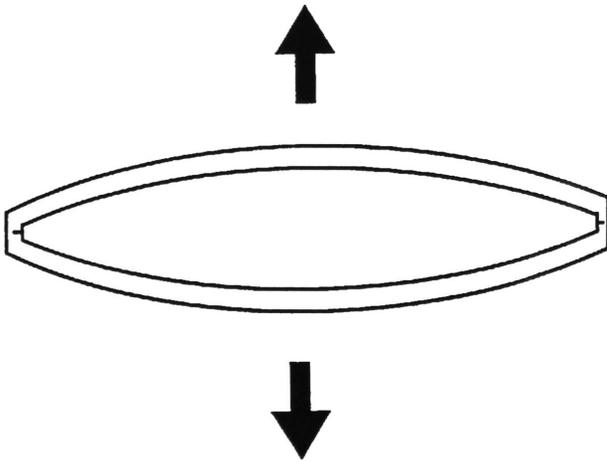
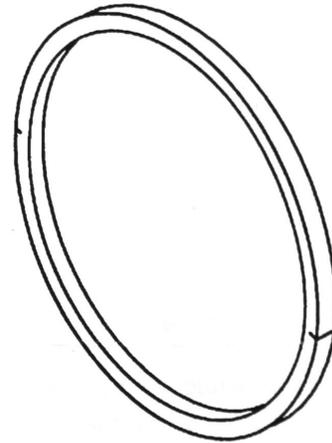

Figure 1
Figure 2
2. Once old seal is removed, pull supplied seal in direction as shown in Figure 1 to form circle as shown in Figure 2.
3. After gasket is formed into a circle, as shown in Figure 2, install gasket, into tub ring with black side showing. Be careful not to crimp or tear seal during installation.